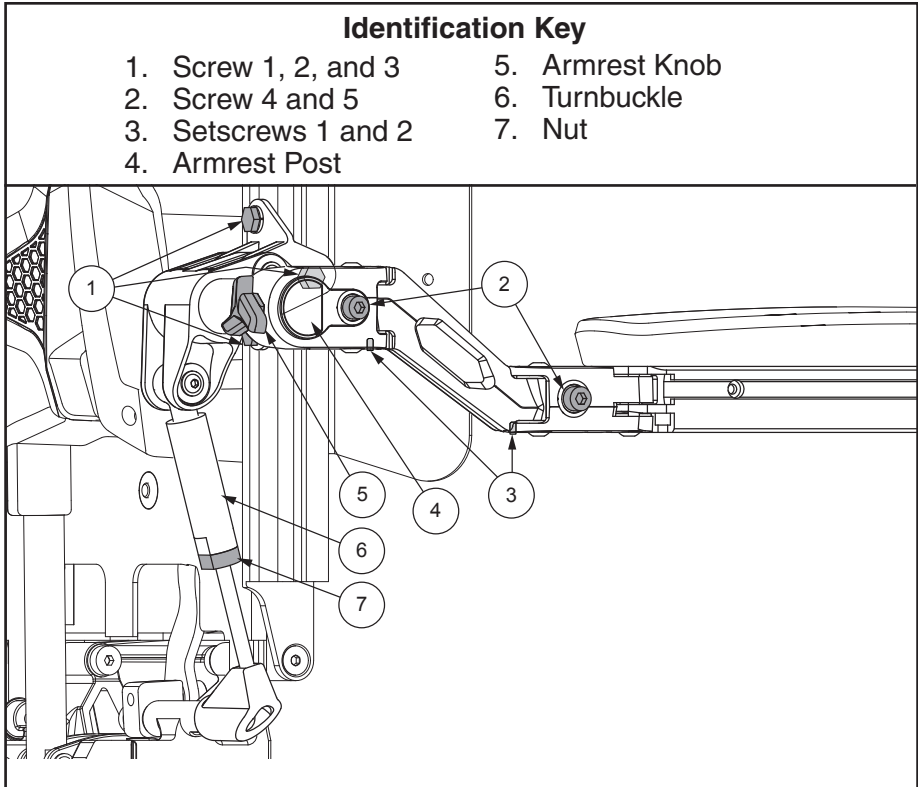

Figure 9. Flip-up Armrest Height and Angle Adjustment
1. Loosen screws 1, 2, and 3. **See figure 9.**
3. Tighten screws 1, 2, and 3. **See figure 9.**
1. Loosen nut. **See figure 9.**
3. Tighten nut. **See figure 9.**
1. Loosen setscrew 1 and/or 2 on underside of armrest prior to adjustment. **See figure 9.**
2. Adjust the armrest width to the desired position by turning screw 4 and/or screw 5. **See figure 9.**
1. Remove the armrest knob. **See figure 9.**
1. Slide the armrest onto the armrest post. **See figure 9.**